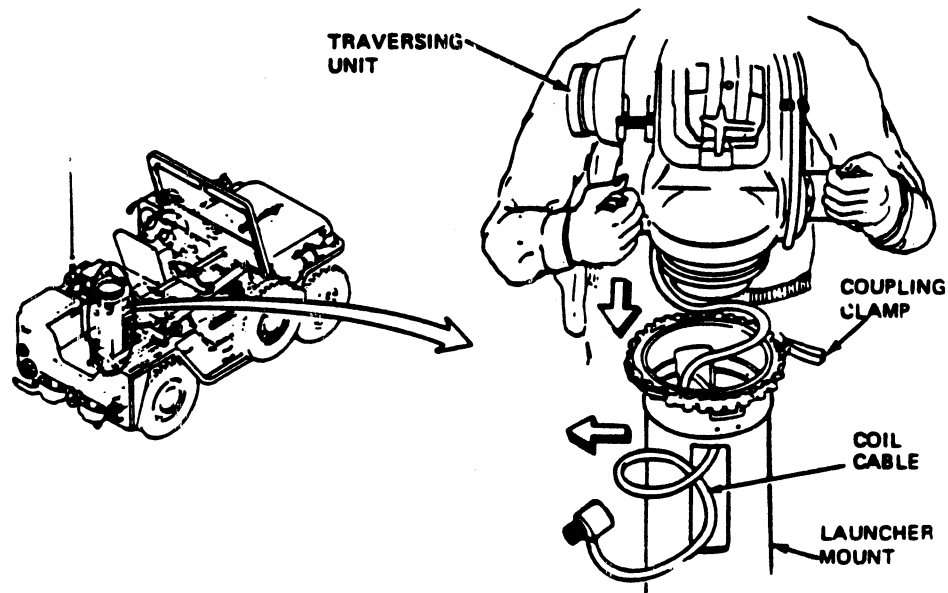

Fig 2-22. Installing traversing unit.
Step 1. Open the coupling clamp and hold the traversing unit near the launcher mount. Feed the coil cable through the hole in front of the launcher mount and lower the traversing unit onto the mount. Ensure that the azimuth lock points to the rear of the jeep (fig 2-22).